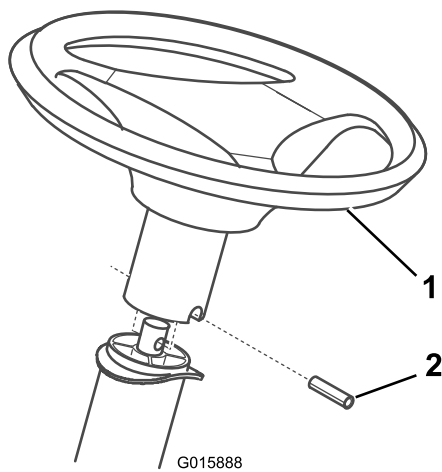

Figure 3
- Slide the steering wheel over the steering shaft and line up the hole in the steering wheel with the hole in the shaft (Figure 3).
5. Using a hammer, drive the spiral pin in until it is flush with the outside of the steering wheel (Figure 3).
1. Position the seat onto the seat base by inserting 2 shoulder bolts through the key hole openings at the end of both slots (Fig. 3).